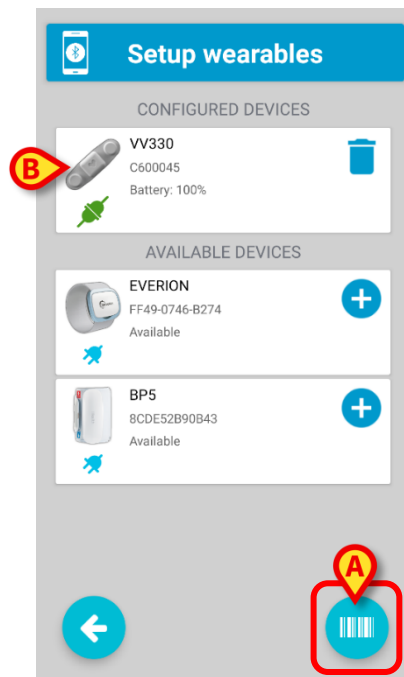

Fig 29
- Press the **Scan** button (Fig 29 A) to scan the barcode related to the wearable device to be paired (obtained via the procedure described above - Fig 26).
The wearable device will be paired automatically and included in the list of “Configured Devices” (Fig 29 B). User confirmation is required to complete the procedure.
*The barcode functionality works slightly differently on Myco3 devices. Myco3 devices are equipped with a physical “Scan” button on the side. Therefore, the “Scan” icon (Fig 29 **A**) is not displayed on Myco3 devices.*